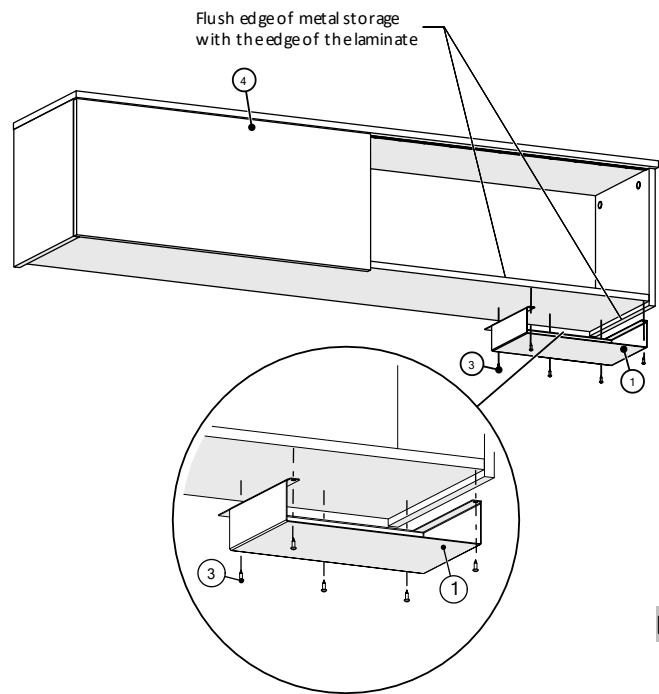

Figure 1
- 1. Align the edges of metal storage 1 with the edges of bottom laminate of the overhead storage. Make sure the edges of the metal storage and edges of bottom laminate of the overhead storage are flush, (Figure 1).
- 2. Attach the Metal Storage in the underside of Overhead Storage/Hutch using (5) #10 x 11/16" Oval Head Screws.